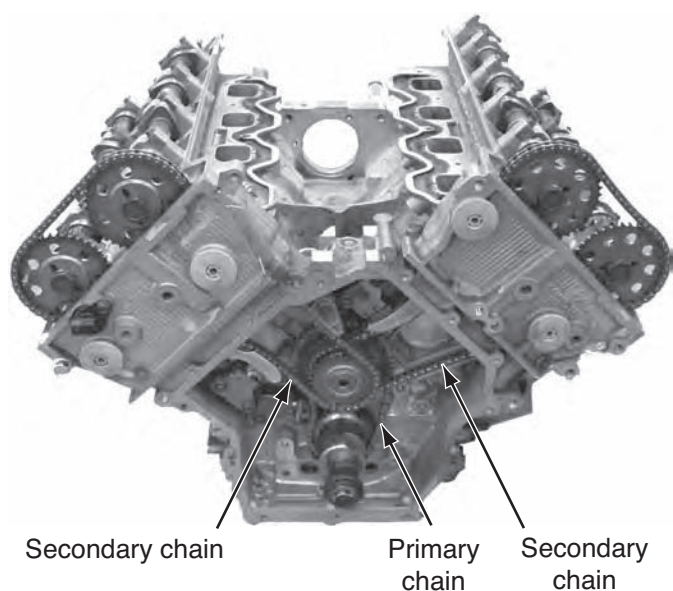

FIGURE 9.73 This Cadillac Northstar DOHC engine has a primary drive chain and two secondary chains. (Courtesy of Tim Gilles)
- OHC engines sometimes have one crankshaft-driven chain with one or two auxiliary chains to the cams on the cylinder heads (**Figure 9.73**). These can have several timing marks.